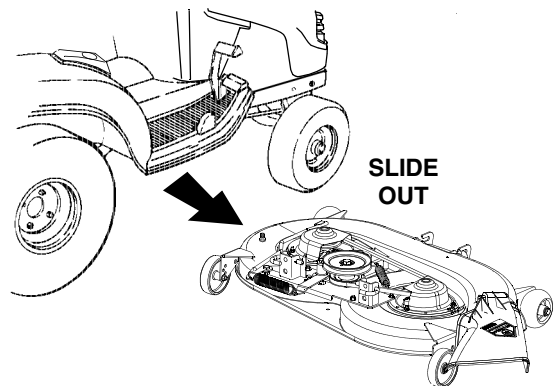

Figure 43
- With the tractor implement lift handle raised to its highest setting, slide the deck to the right and out from under the tractor (See Figure 43).
2. Refer to Figure 43 and position the deck on the right side of the tractor with the front of the deck facing toward the front of the tractor. Raise the tractor implement lift handle to its highest setting and slide the deck under the tractor.